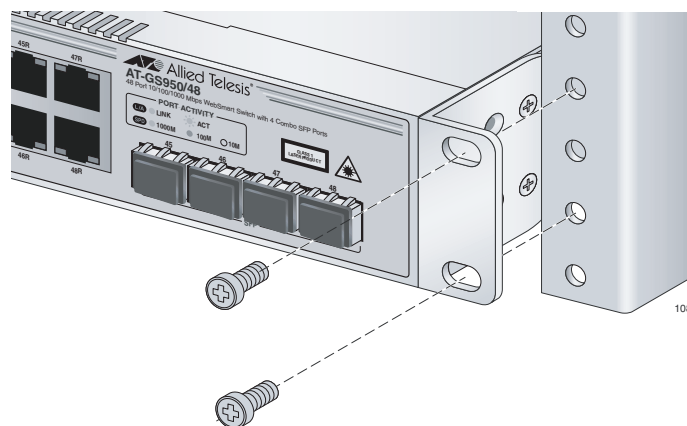

Figure 8. Mounting the Switch on the Rack
4. Mount the switch on a 19-inch rack, as shown in Figure 8.